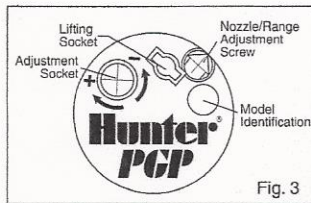

Fig. 3
1. Insert the plastic key end of the Hunter wrench into the adjustment socket (Fig. 3 & 4).